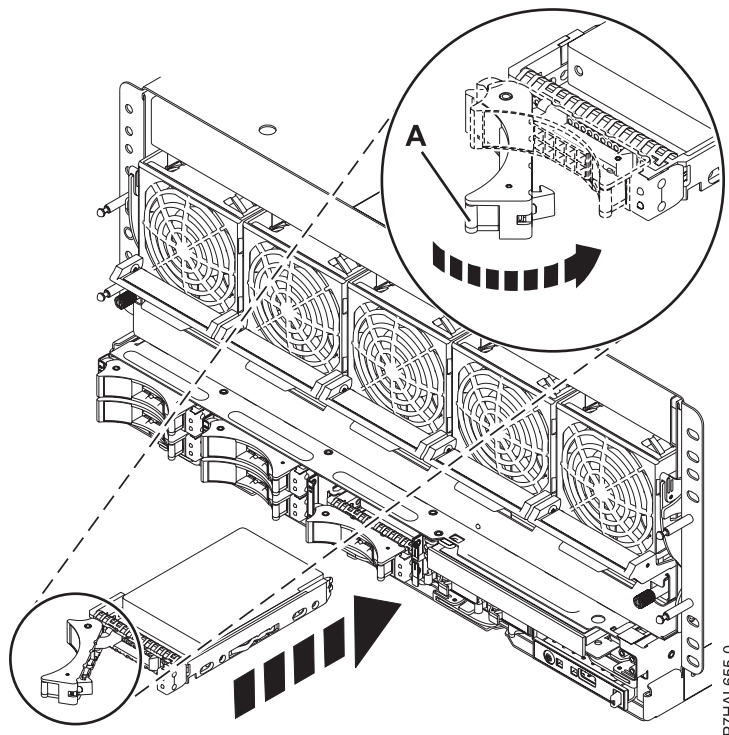

Figure 5. Installing the drive in the system
3. Unlock the drive handle (A) by squeezing it and pulling it out toward you. If the handle is not all the way out, the drive does not slide into the system or expansion unit.
7. When the identify LED flashes, slide the drive all the way into the system or an expansion unit, and push the drive handle (A) in until it locks. See Figure 5 showing installing a drive in the system.